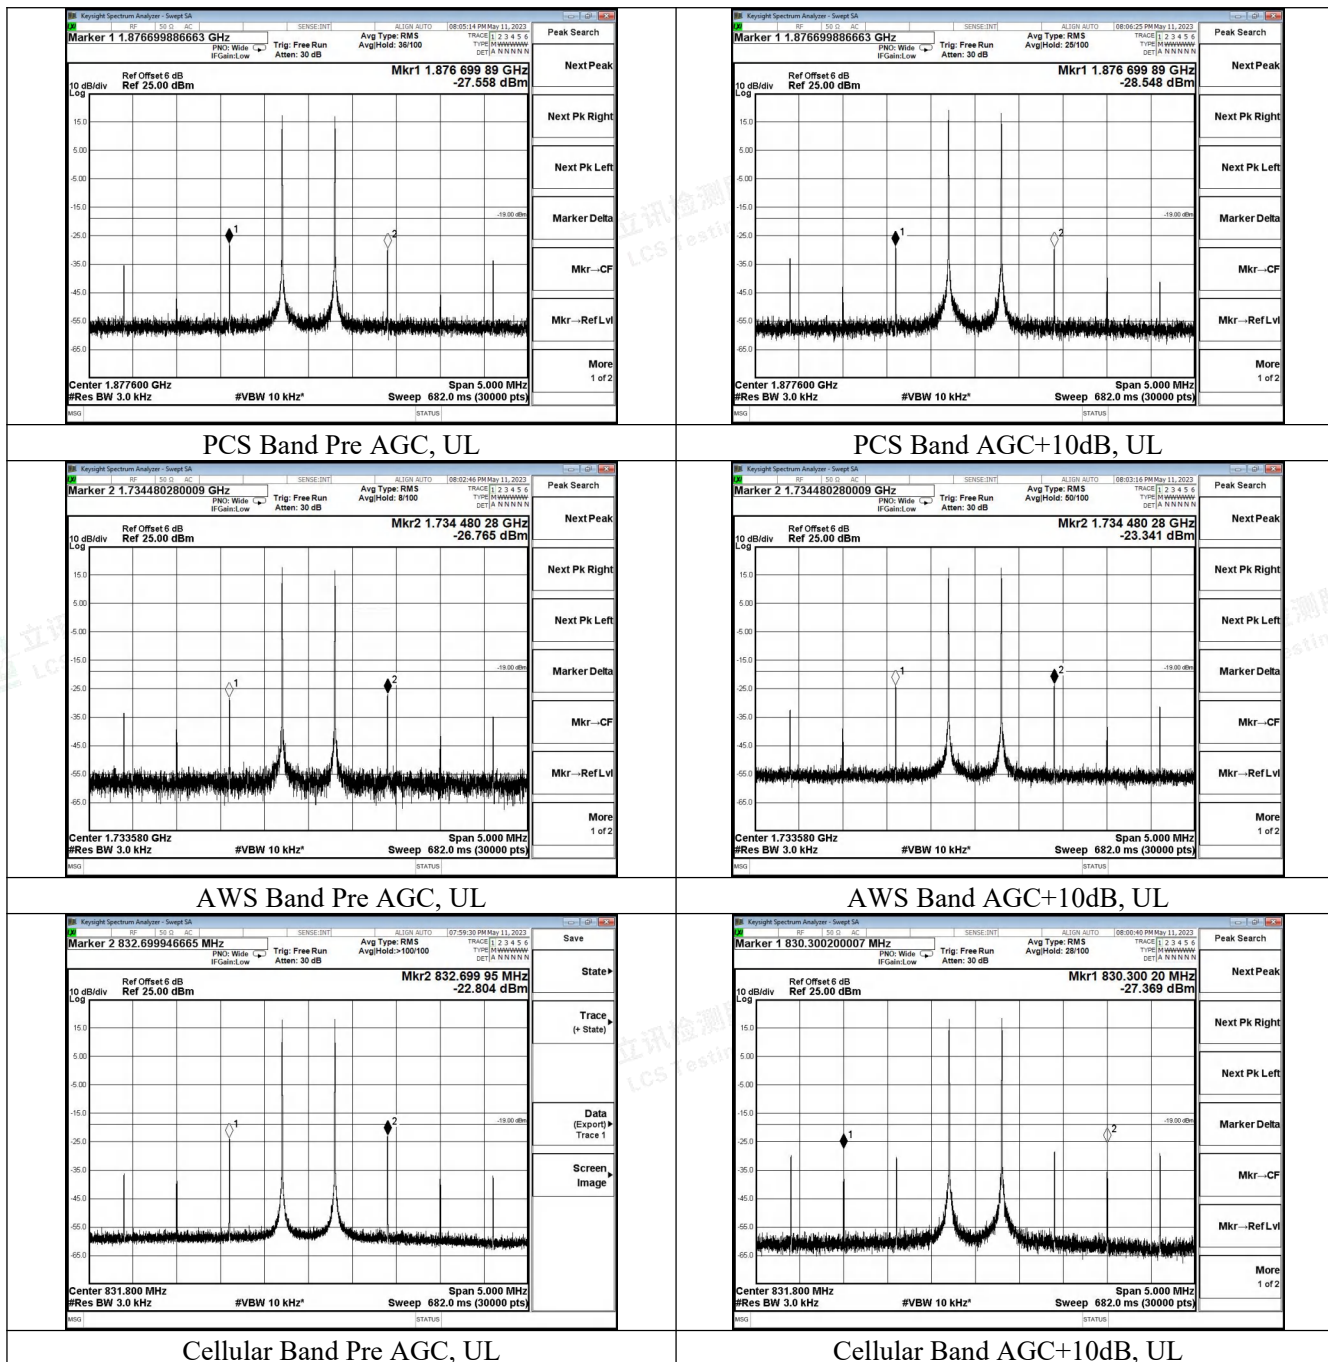

Figure 2 – Intermodulation product instrumentation test setup
- a) Connect the signal booster to the test equipment as shown in Figure 2. Begin with the uplink output (donor) port connected to the spectrum analyzer.